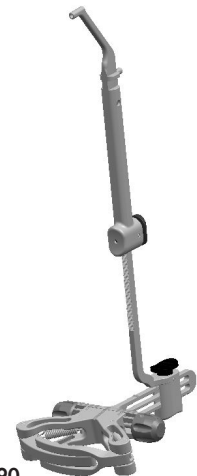

Figure 90
2. Attach the Micro EM Tibial Alignment Tube to the EM Posterior Slope Guide by depressing the inferior button on the Alignment Tube (Figure 90) and sliding to the desired position. Once the button is released, the height will be locked in position.